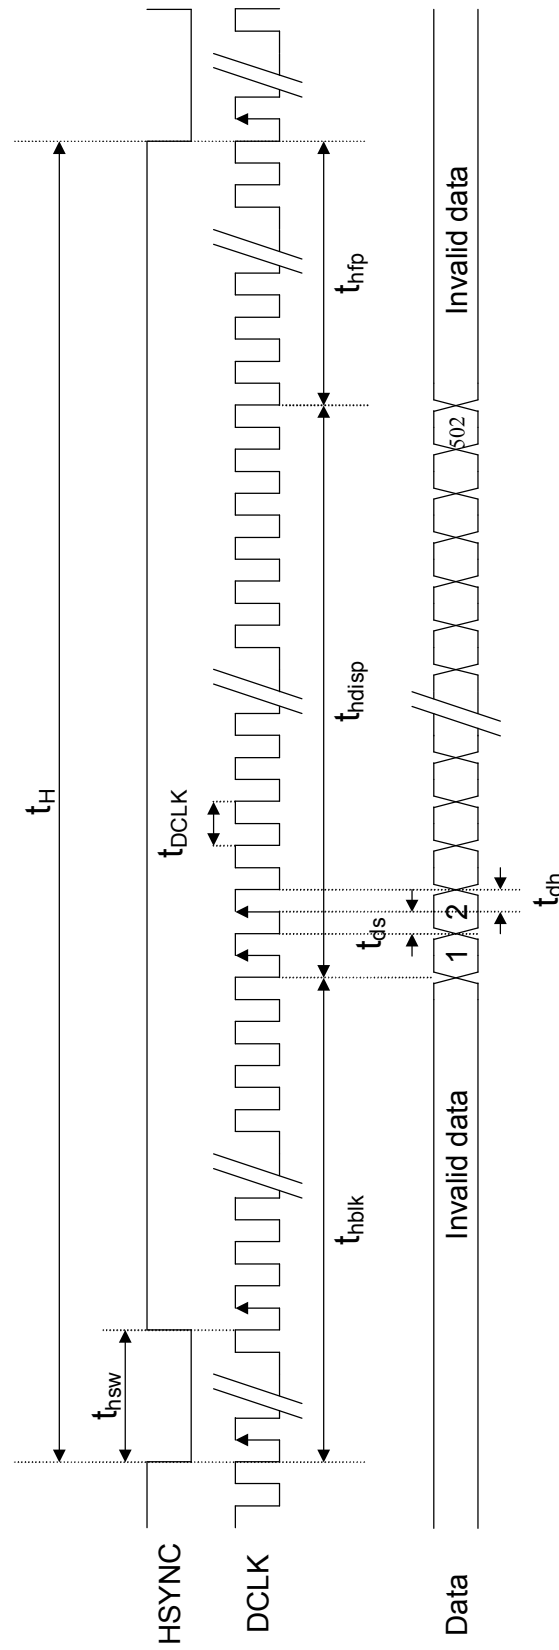
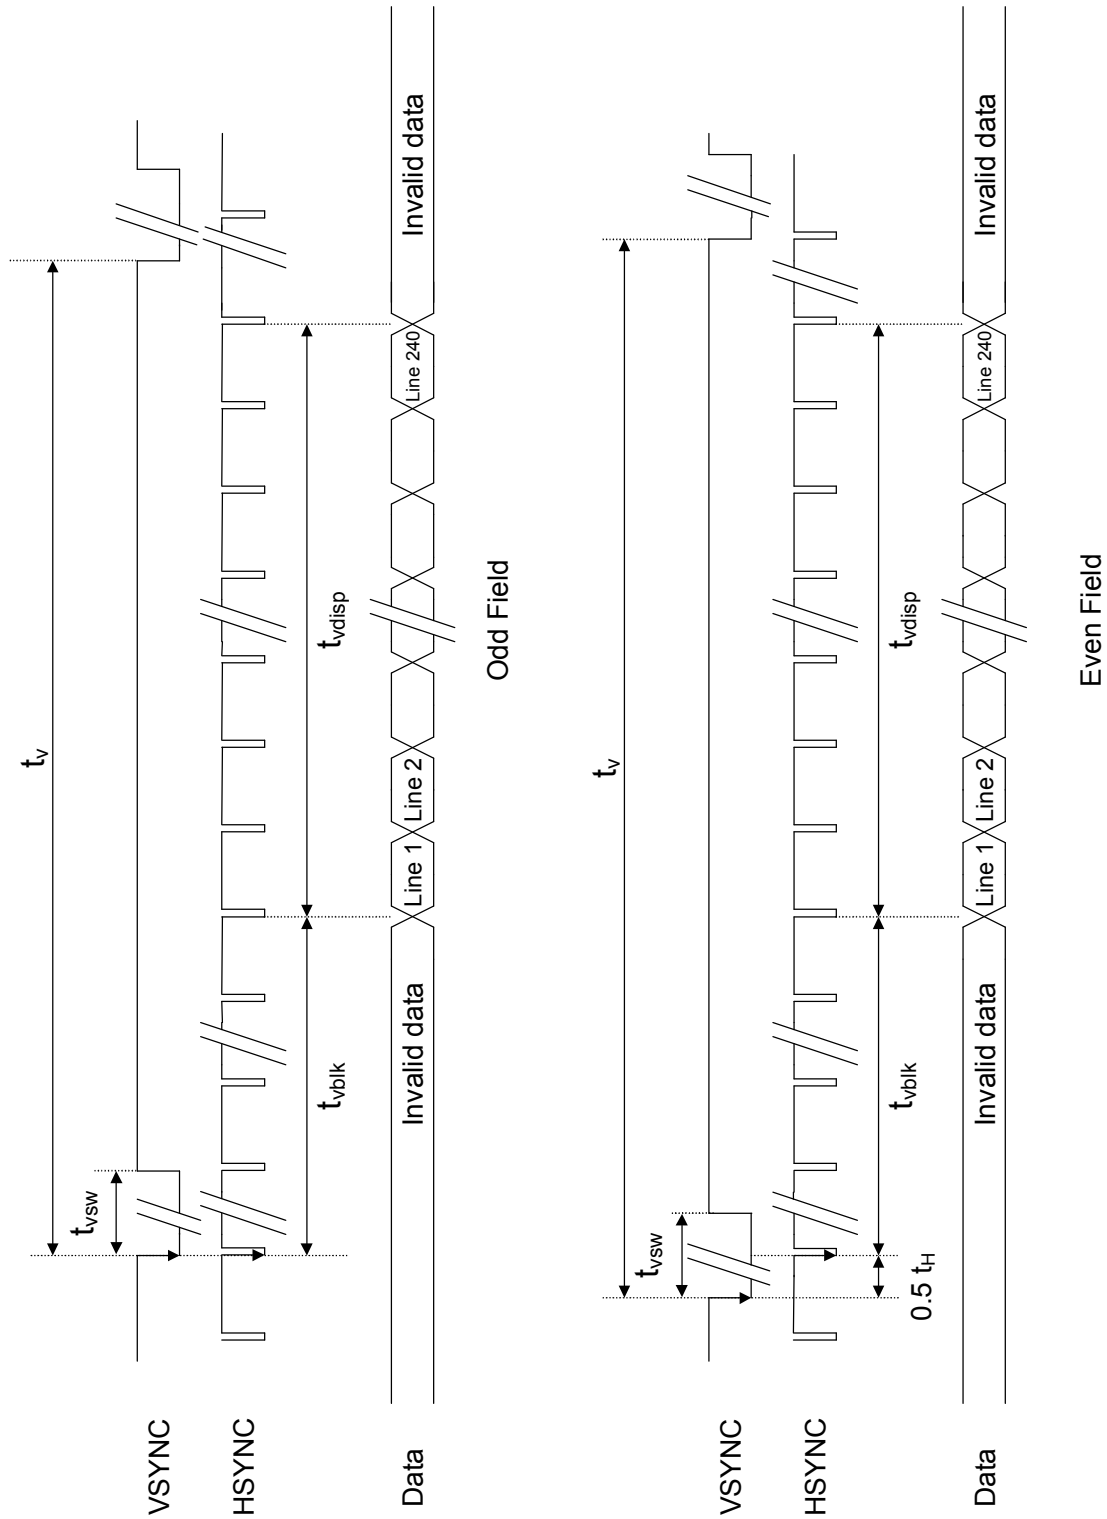

Fig.1 UPS051 Input Horizontal Signal
Fig.2 UPS051 Input Vertical Signal
b. UPS051 timing specifications (refer to Fig. 1, Fig. 2)